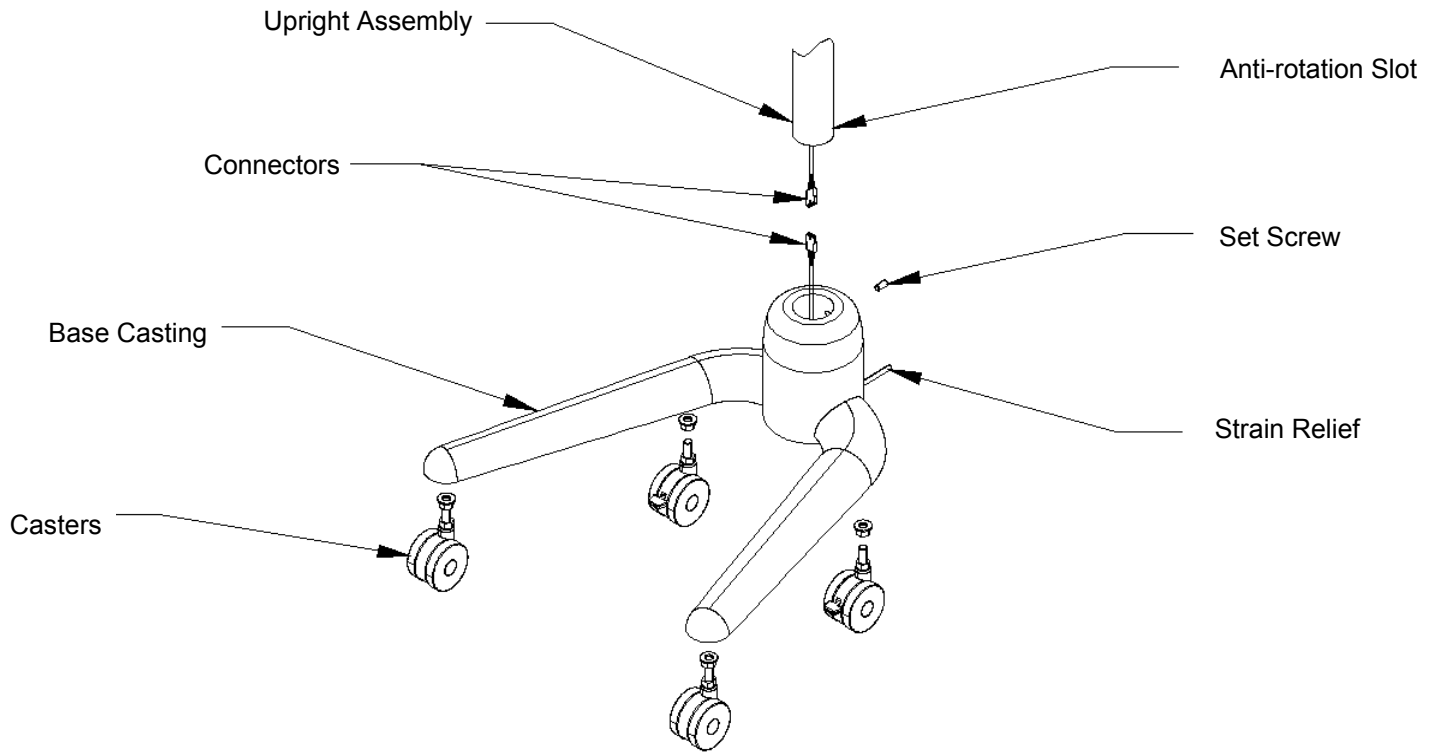

Figure 15: Floor Stand Light Installation
Prior to installation insure that all components shown are present. (See Figure 15 & 16)
- Position the floor base casting so that the set-screw in the base is at the rear of the assembly. (See figure 15)
- Connect the Connectors from the upright assembly to the base casting. See Figure 15.